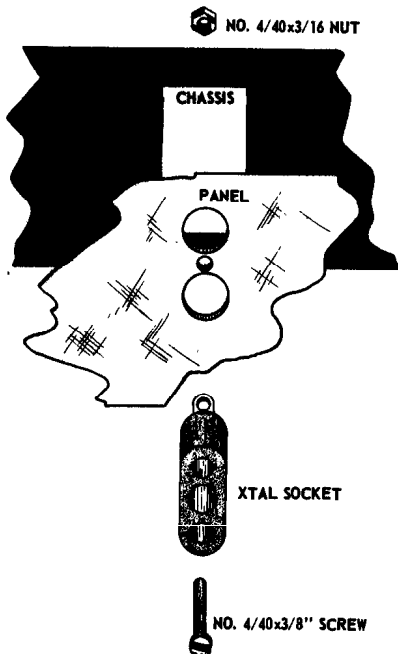

Figure 6.
- ☐ 46. Mount the XTAL-VFO socket X-1 from the front of the panel as per Fig. 6. Use a 4-40x3/8" screw and a 4-40x1/2" hex nut. Tighten securely.